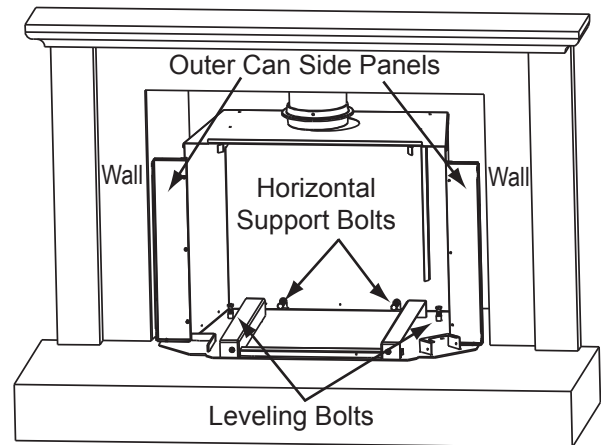

Figure 19.4
2. Use the leveling bolts to level the outer can (**Figure 19.4**).